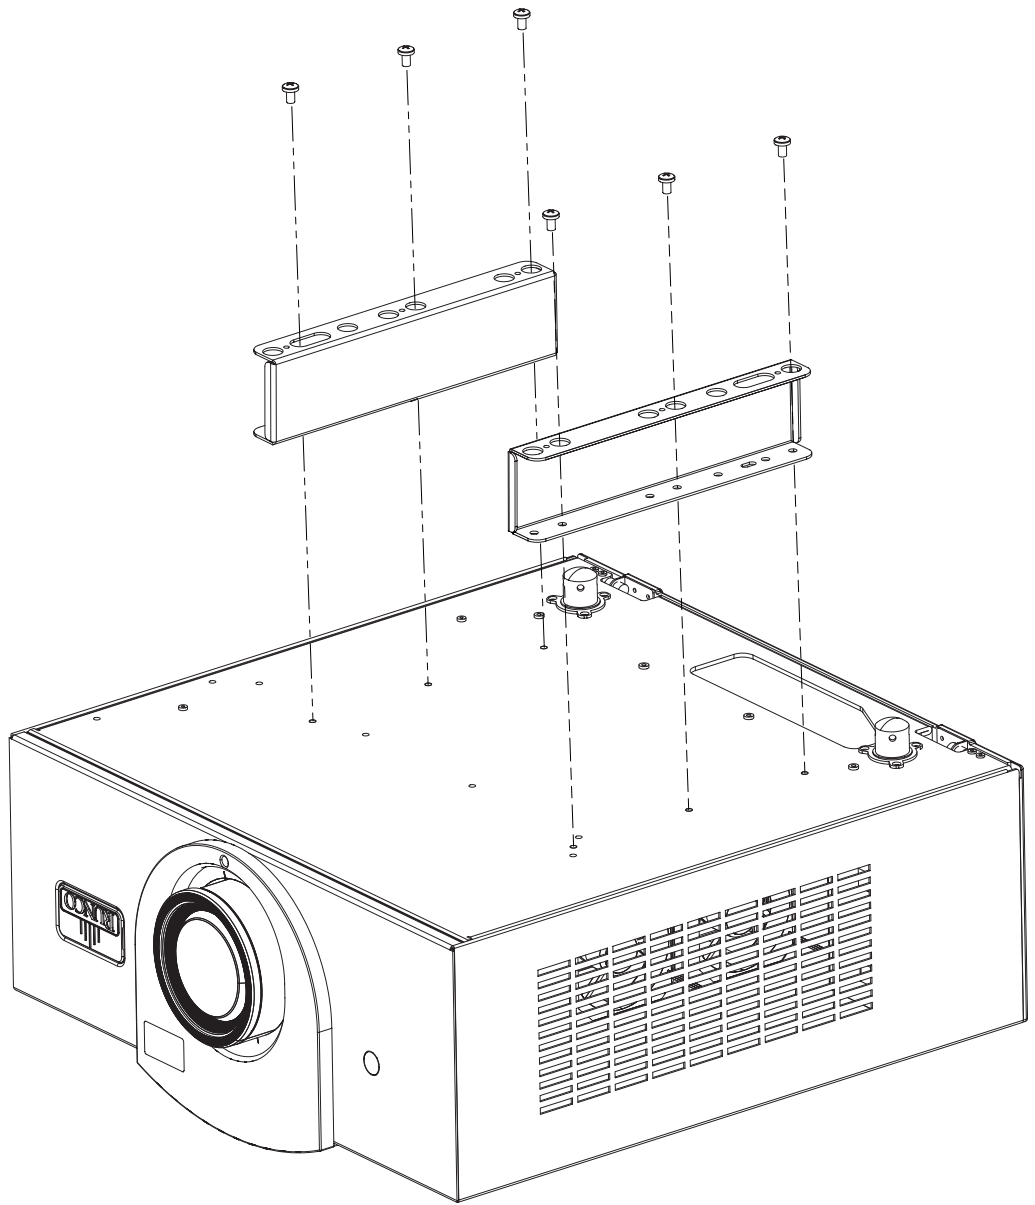

Figure 3-7. Q-750d with Ceiling Mount Adapters/Projector Stands
Using six (6) each of the supplied, M6 x 12mm Pan-Head Phillips screws (item #2), attach the AutoScope Ceiling Mount Adapters/Projector Stands (items #3 and #4) to the projector as shown in Figure 3-7.